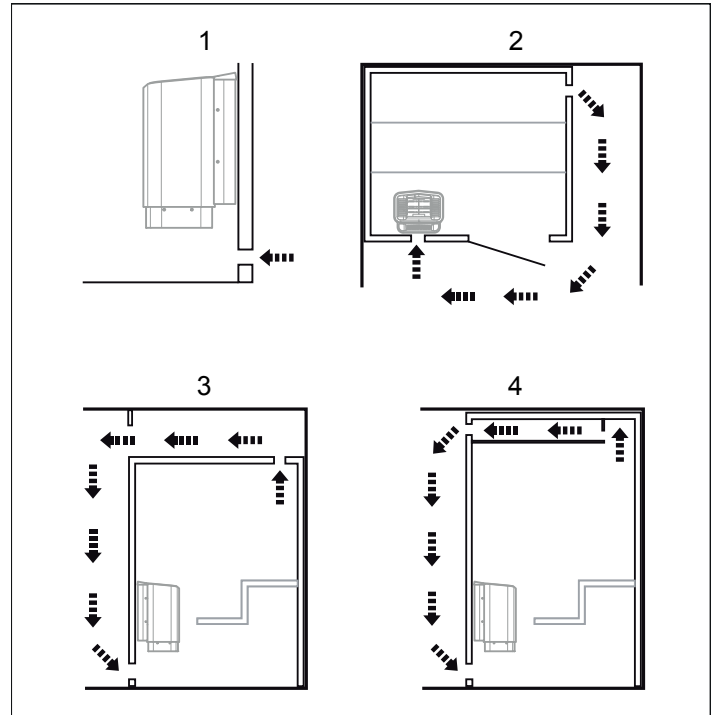

Figure 8: Positioning the air intake and exhaust vents
- at the maximum possible distance from the air intake vent, e.g. diagonally (see Figure 8).
- high on the wall or in the ceiling (see Figure 8).